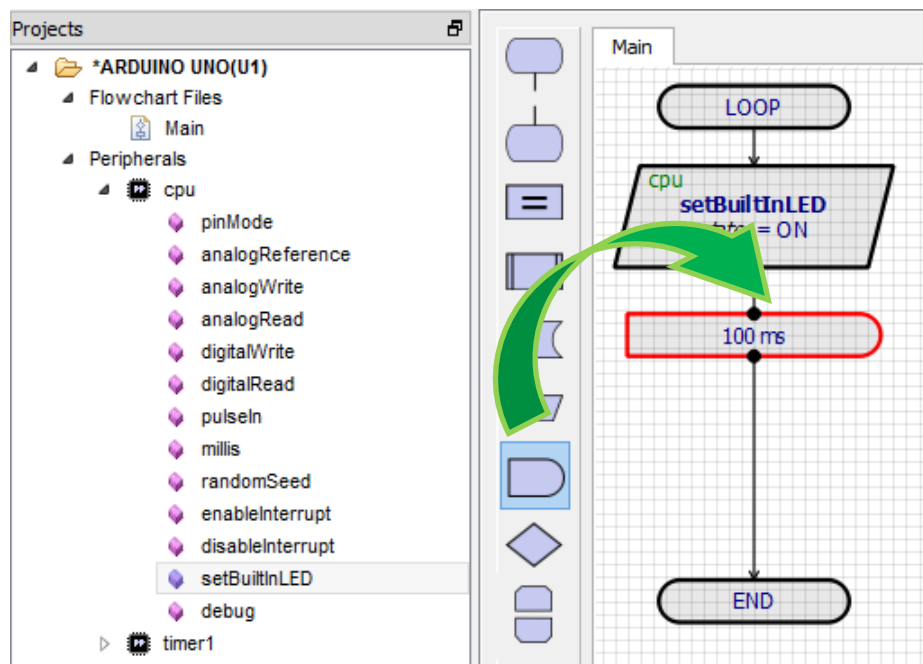

Figure 2-15: Inserting a delay block
Step 2: The next step is to add a delay, before we switch the LED off again. This is done using a delay block; so drag a delay block into the flowchart, inserting it after the setBuiltInLED block (Figure 2-15).